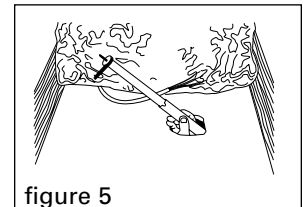
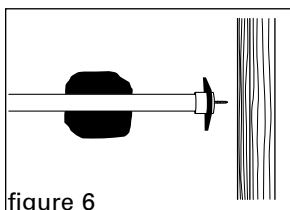

figure 5
figure 6
3. Insert Saf-T-Brace® through the opening in the ceiling as shown (figure 5). It may be necessary to insert the Saf-T-Brace® parallel to the ceiling joist and then turn it perpendicular to the joist above the sheetrock. Once Saf-T-Brace® is in the attic and standing on the sheetrock, the outer tube must be positioned over the hole. If it is not, turn the brace 180 degrees. Center the brace over the hole in the sheetrock (figure 6).